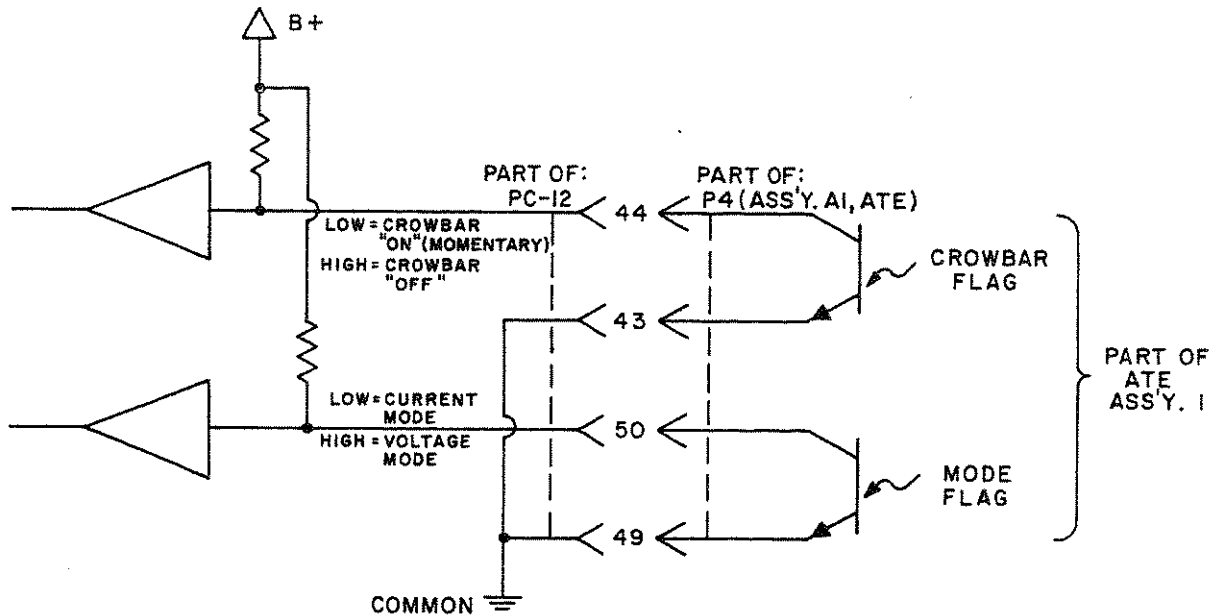

FIG. 3-31 ISOLATED FLAG SIGNAL OUTPUTS.
- 3-122 Two opto-isolated flag signals are provided at the rear programming connector (PC-12). One of them signals the ATE operating mode (Voltage or Current Mode), the other one provides a signal to indicate that the ATE crowbar has been tripped. Both flag signals consist of the Collector/Emitter terminals of a Photo-Transistor Optical Isolator and change their impedance from high to low if activated. The ATE flag signals may be converted to TTL logic signals as indicated in FIG. 3-31. The photo transistors are capable of sinking at least one (1) standard TTL load (1.6mA). Since the crowbar flag signal is followed by the shut-down of the ATE power supply, the flag signal is the form of a pulse, rather than a permanent level shift.